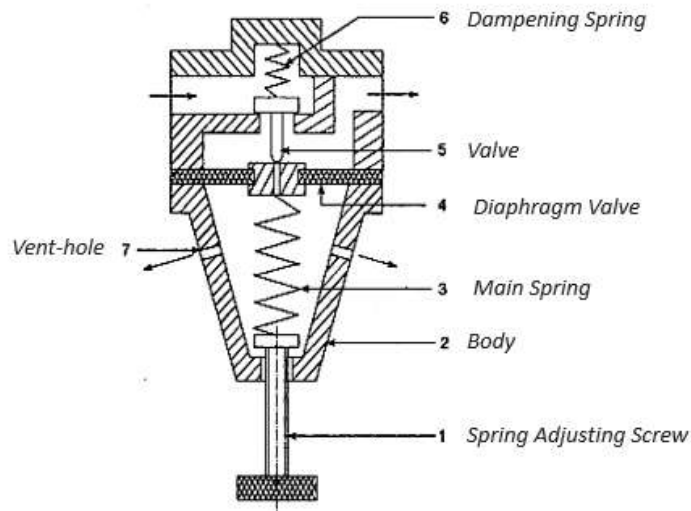

Fig.4.16 Pressure Regulator
- ▶ Fig.4.16 shows the internal construction of a pressure regulator in a pneumatic system. The main function of this valve is to regulate the incoming pressure to the system so that the desired air pressure is capable of flowing at a steady condition.